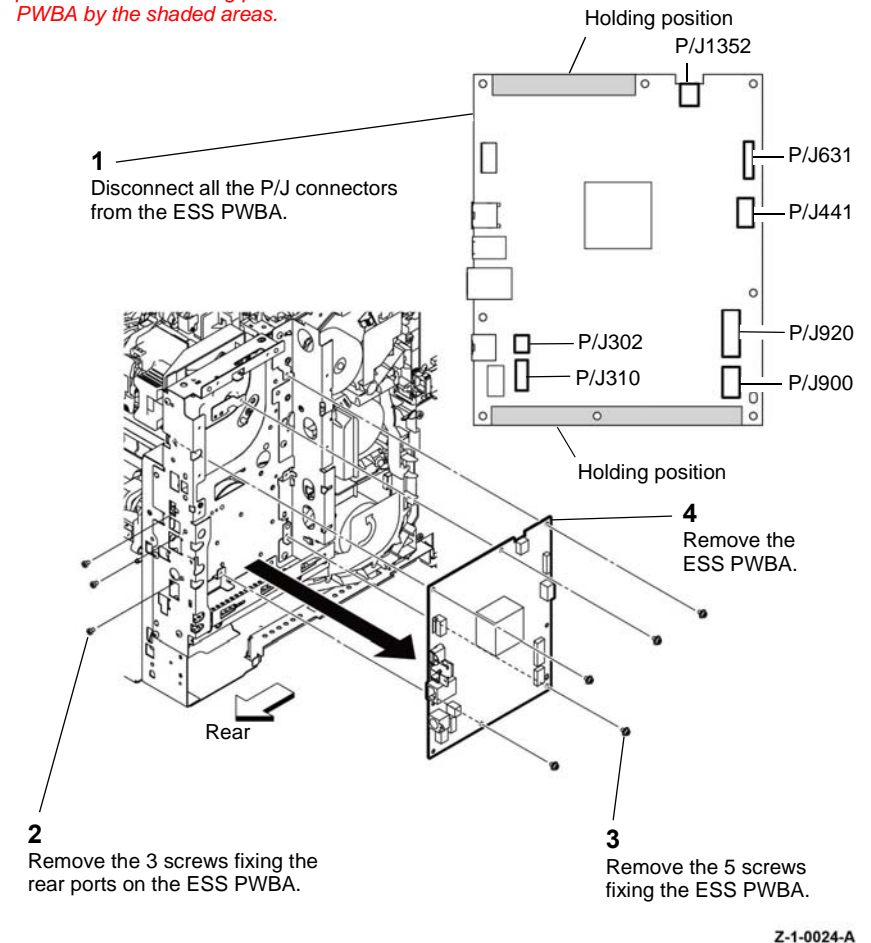

Figure 4 Remove the ESS PWBA
Only hold the ESS PWBA by the designated holding positions, refer to Figure 4.
4. Remove the ESS PWBA, Figure 4.